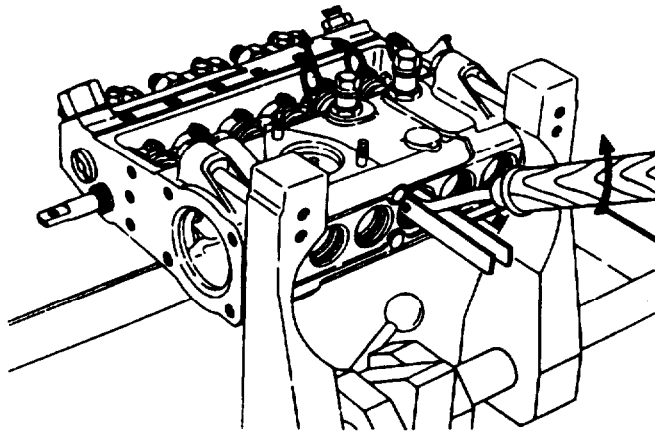

FIGURE 3-13. Removing Tappet Holder (Typical)
- w. Insert tappet installer (157921-0120) into bottom plug hole, refer to FIGURE 3-13.